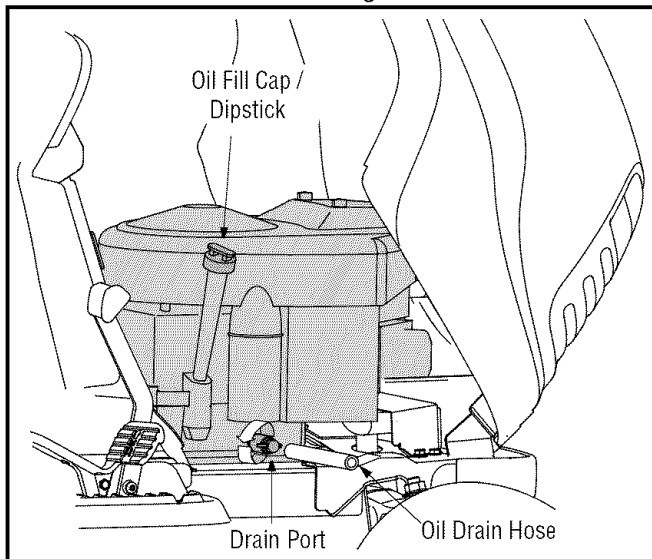

Figure 14
- Unscrew the oil fill cap and remove the dipstick from the oil fill tube. See Figure 14.
- Pop open the protective cap on the end of the oil drain valve to expose the drain port. See Figure 14.